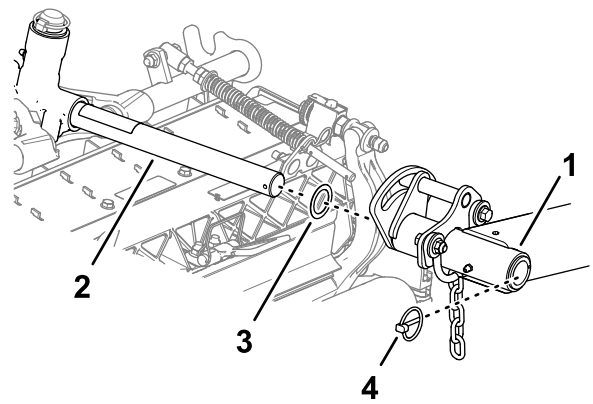

Figure 19
3. Slide a cutting unit under the lift arm (**Figure 19**).